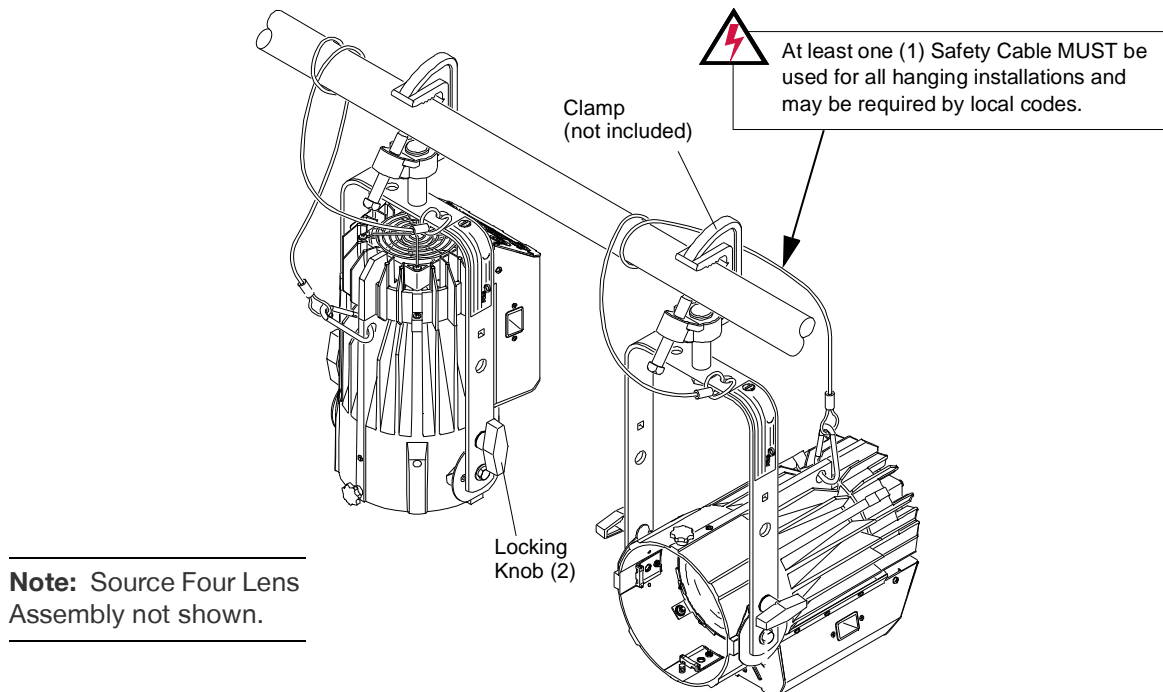

Figure 3: Standard Hanging Configuration
- Step 1. Install clamp (not included) on ReNEW yoke (**Figure 3**).